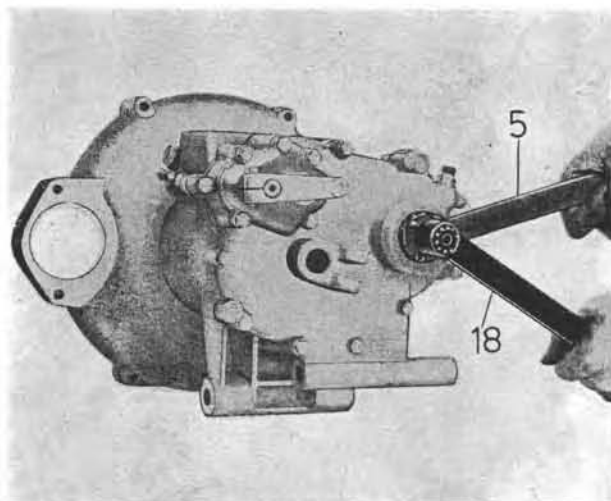

Fig. 79
- layshaft lock ring by means of special wrench No. 12905400 (see 5 on Fig. 79), after having disengaged tab washer by means of tool No. 12907100 (see 18 on Fig. 79).